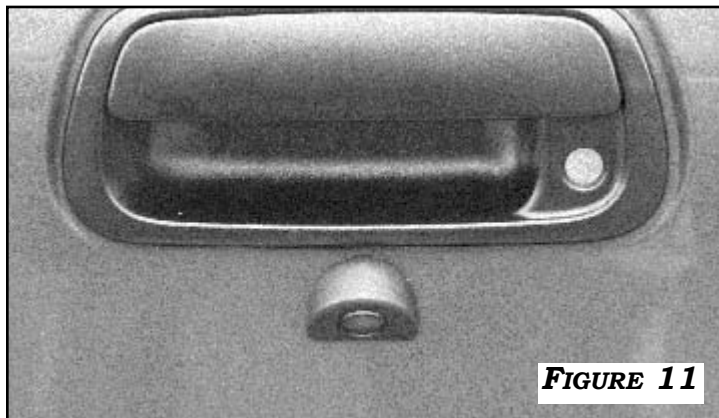

FIGURE 11
2. WIPE THE AREA AROUND THE HOLE WITH AN ALCOHOL PAD. INSERT THE CAMERA CONNECTOR AND PCB INTO THE HOLE. REMOVE THE LINING OF THE DOUBLE-SIDED ADHESIVE ON THE CAMERA HOUSING AND MOUNT THE CAMERA TO THE TAILGATE, MAKING SURE THE BOTTOM EDGE OF THE HOUSING IS PARALLEL TO THE GROUND AS SHOWN IN **FIGURE 11**.